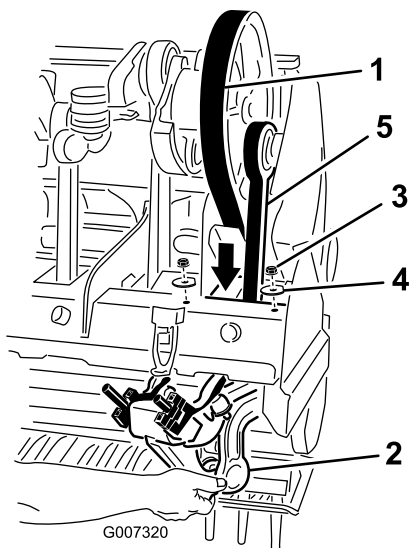

Figure 39
5. Loosen and remove the 2 locknuts and washers securing the rotalink damper for the #1 stomper arm (Figure 39).
7. Route the drive belt down through the coring head frame and around the lower end of the #1 stomper arm (Figure 39).